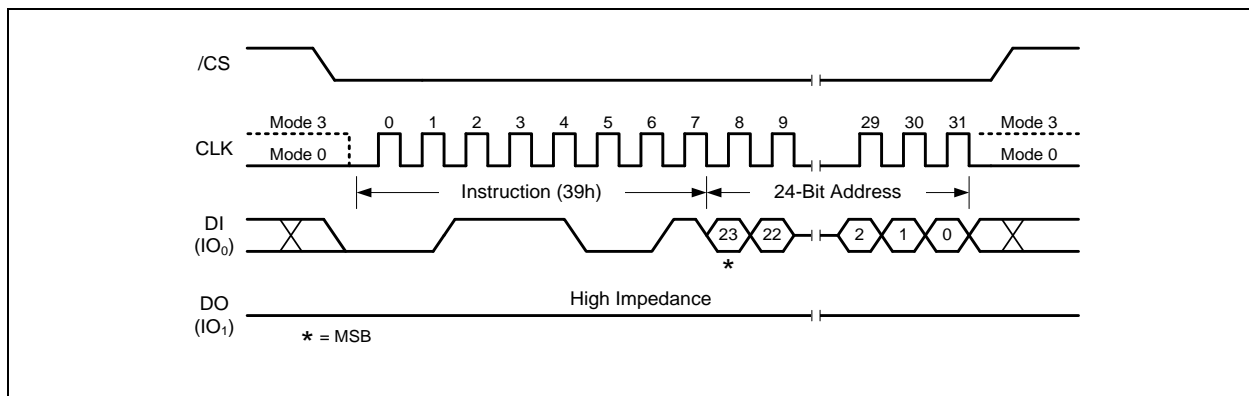

Figure 36. Individual Block Unlock Instruction
To unlock a specific block or sector as illustrated in Figure 36, an Individual Block/Sector Unlock command must be issued by driving /CS low, shifting the instruction code “39h” into the Data Input (DI) pin on the rising edge of CLK, followed by a 24-bit address and then driving /CS high. A Write Enable instruction must be executed before the device will accept the Individual Block/Sector Unlock Instruction (Status Register bit WEL= 1).